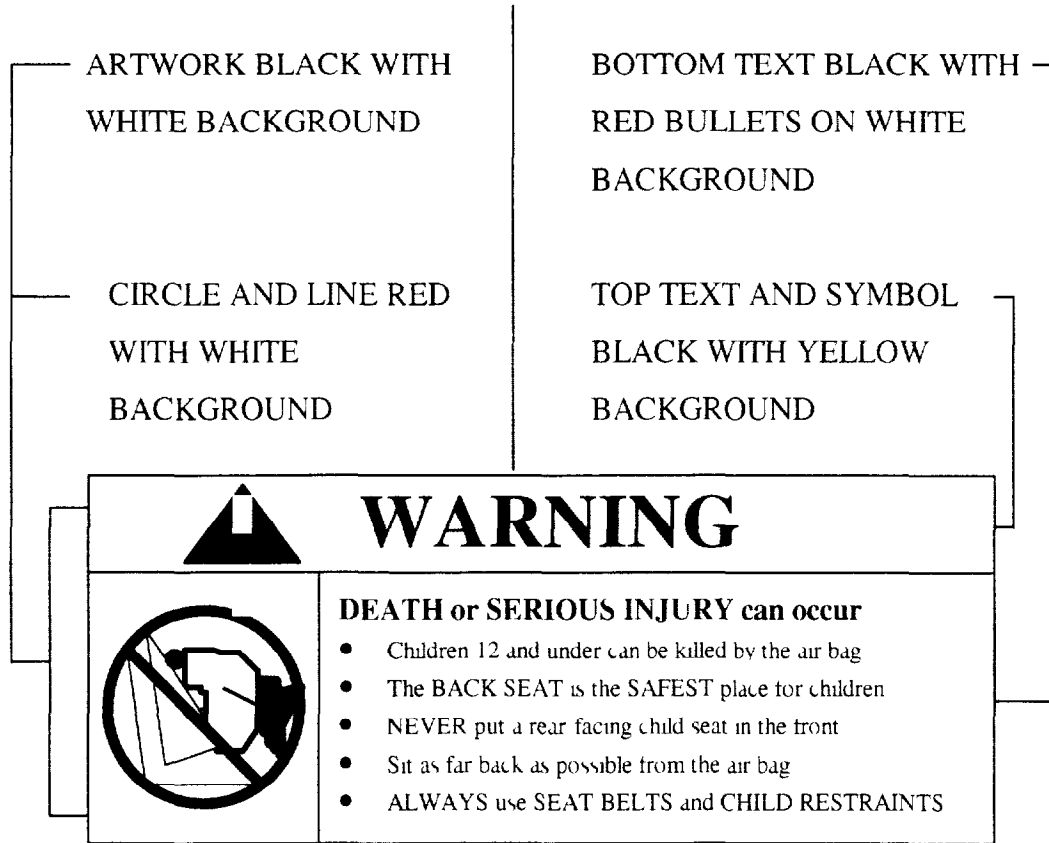

Figure 6a
4.2 Does the label conform in content (**vehicles without back seats may omit the statement: "The BACK SEAT is the SAFEST place for children."**) (S4.5 1(b)(2)(v)) to the label shown in either Figure 6a or 6b as appropriate at each front outboard seating position with an air bag? (S4 5 1(b)(2))
4.2.2.1 Does the label conform on content to the label shown in either Figure 6a or 6b as appropriate?
4.2.2.2 Does the label conform in content to the label shown in Figure 6a where the label can be modified to omit the pictogram and the message may read